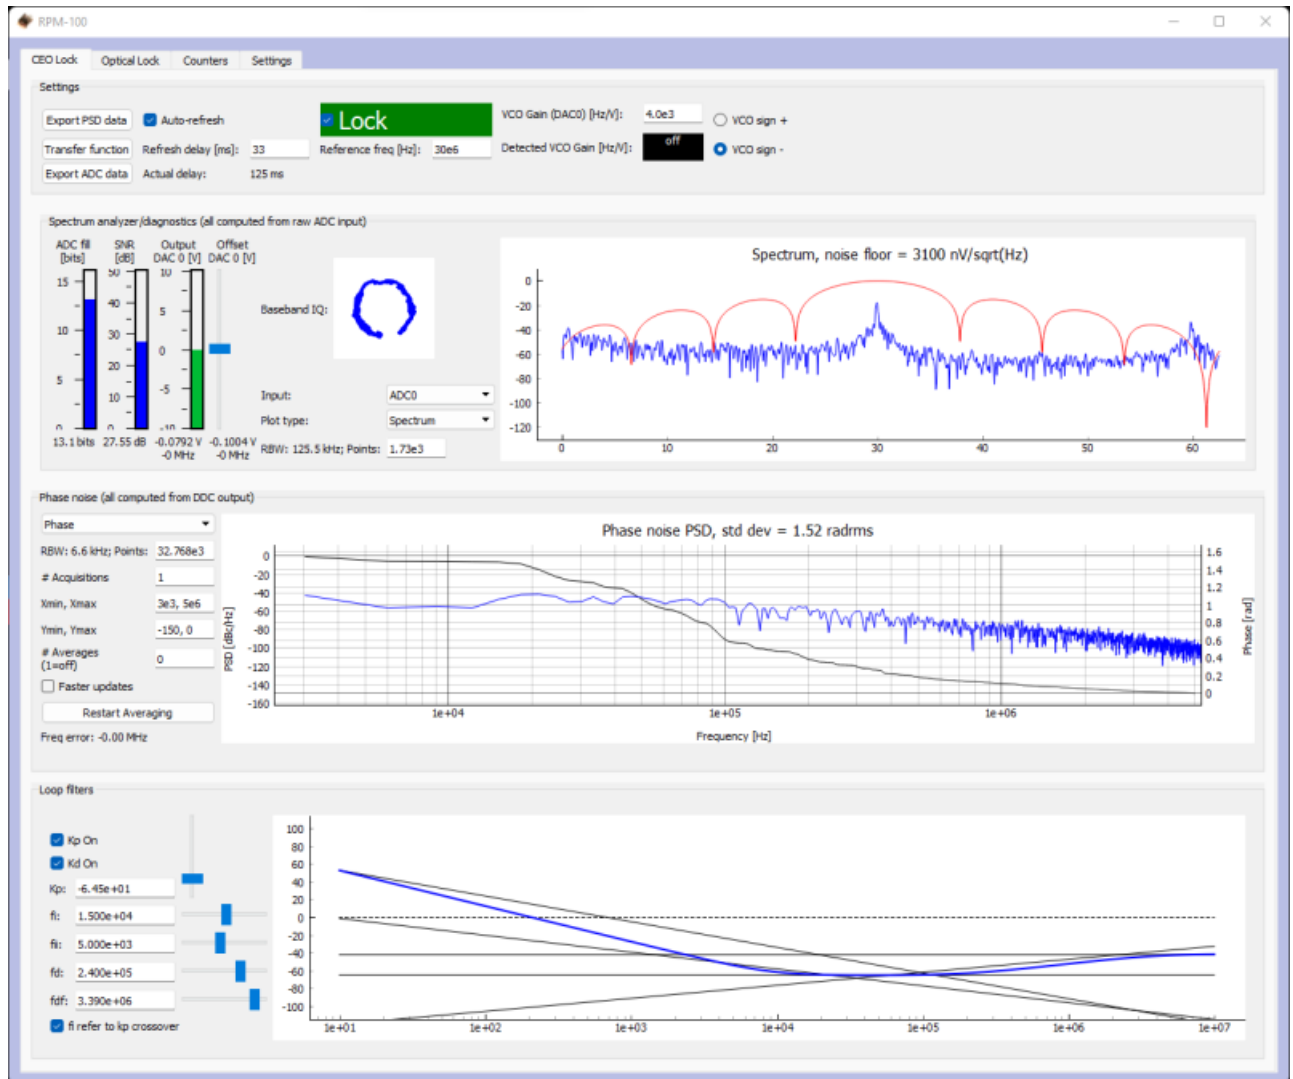

Fig. 10: Locking  $f(\text{CEO})$
- Press the "Lock" button (figure 10, top middle). If the system doesn't lock, change the VCO sign to the opposite polarity (top right) and try again. A warning may occur if the selected VCO sign is incorrect. If the system still won't lock, try lowering the  $K_p$  value (bottom left).